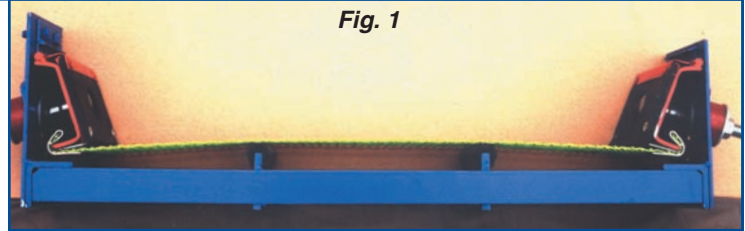

Fig. 1
- B. Exact finished dimensions of section. Measure from either outside to outside of hooks, or inside to inside of hooks. (See fig. 1) "OCW" can be determined by measuring the dimensions of the clear clamping width between the vibrator side plates and subtracting 1 to 1-1/2 inches.